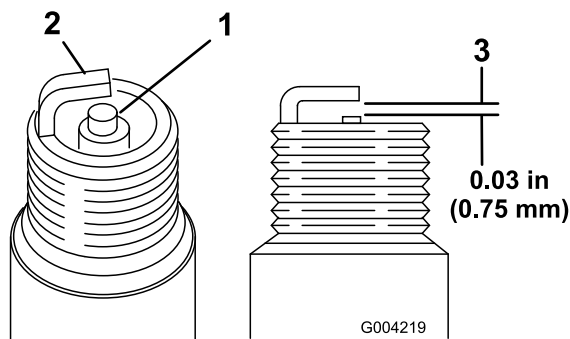

Figure 50
1. Look at the center of both spark plugs (Figure 50). If you see light brown or gray on the insulator, the engine is operating properly. A black coating on the insulator usually means the air cleaner is dirty.
2. Check the gap between the center and side electrodes (Figure 50).
3. Bend the side electrode (Figure 50) if the gap is not correct.